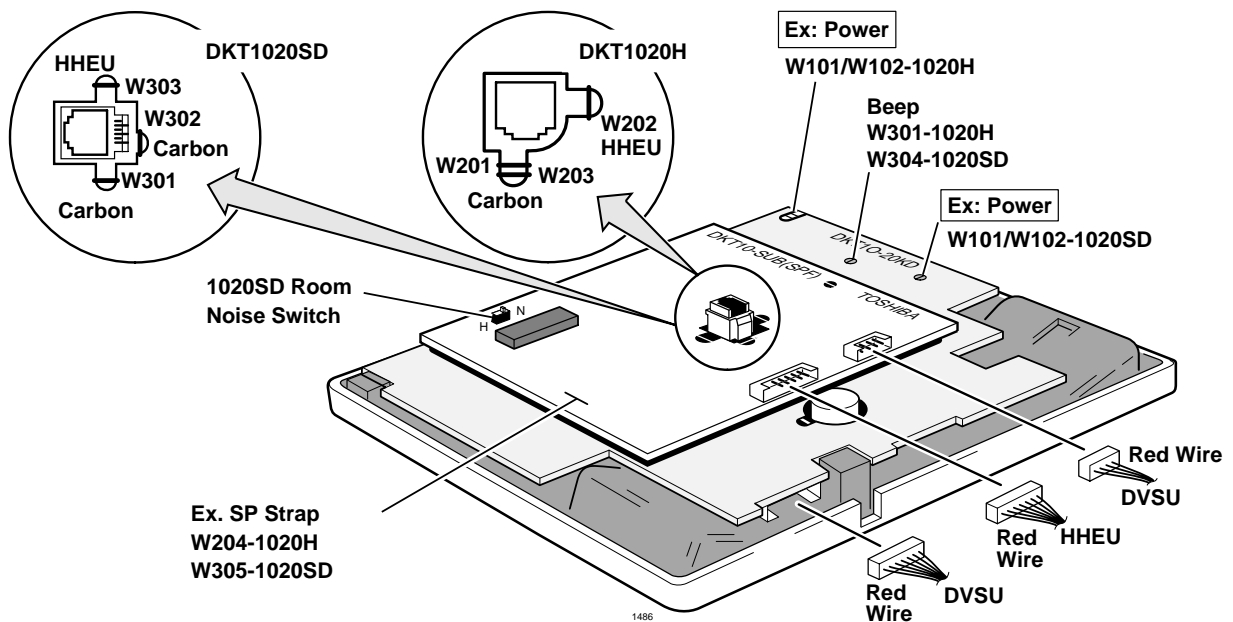

Figure 9-10 1000-series Digital Telephone Strap and Connector Locations
2. For the 1000-series speakerphone model (DKT1020-SD), see Figure 9-10, and locate the room noise switch. Push the switch carefully to the H (high) position (for low sensitivity) when there is high background noise in the area surrounding the telephone.